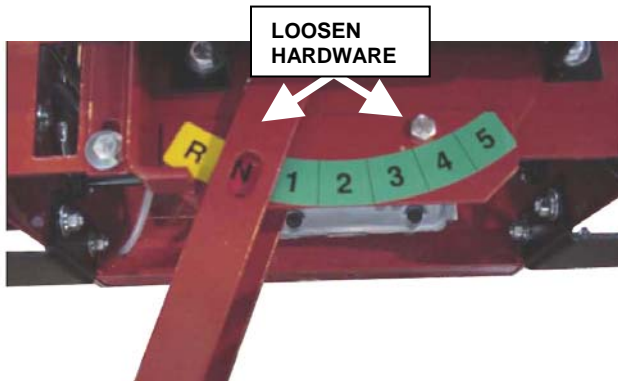

FIGURE 6.5
1. Loosen hardware securing Transmission Shift Indicator Plate to machine. See Figure 6.5.
2. Move the Transmission Shift Lever to the neutral (N) position.